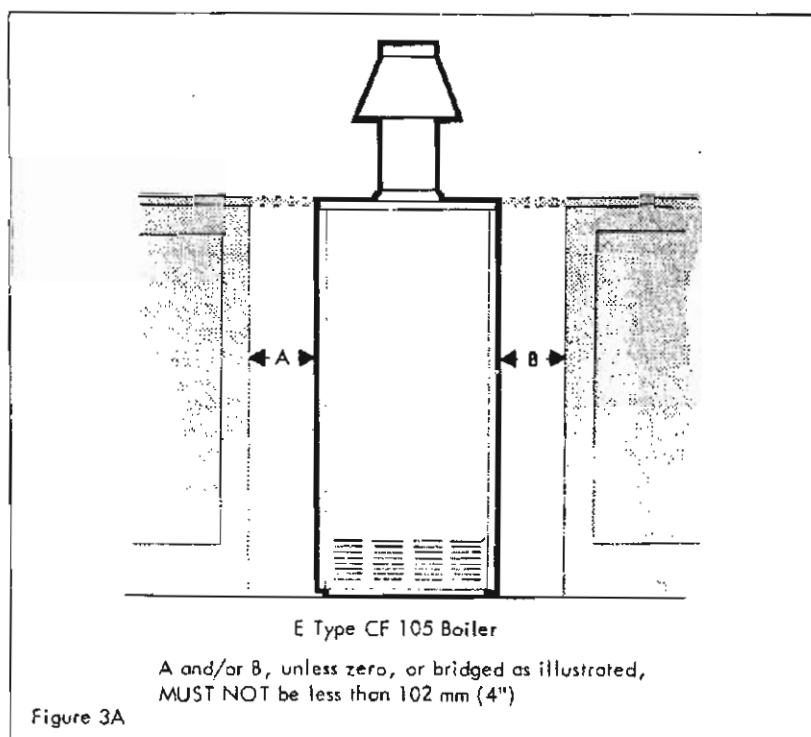

Figure 3A
(1) Fixtures may be built up to the cabinet sides (i.e. zero gap).
(2) Spaces of any dimension between the cabinet sides and fixtures may be bridged at CABINET TOP LEVEL as illustrated in Fig. 3A.
(3) If spaces are not bridged the widths MUST comply with the requirements shown in Figure 3A.